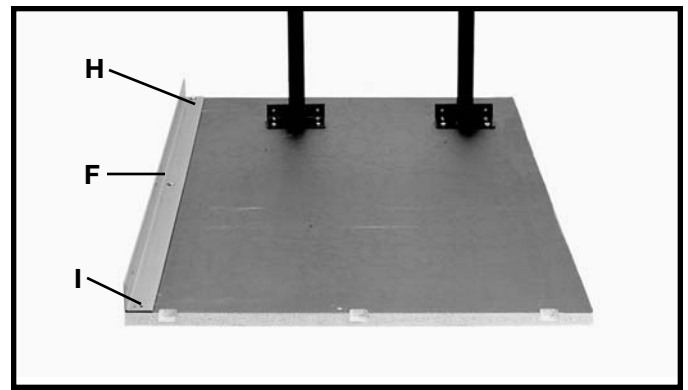

Fig. 9
5. Fasten the front table support (F) Fig. 9, to the bottom of the table as shown using two #8x7/8" long wood screws (H) and (I) supplied.
**NOTE:** The vertical flange, on the table board support (F), should be flush with the front edge of the table board.
**NOTE:** The slots closer to the angles in the support (F) should be against the table.
**NOTE:** Screws (H) and (I) Fig. 9 should not be completely tightened to the table board at this time. Screw (I) will have to be removed later.
**NOTE:** Screw (I) Fig. 9, must be removed in order to attach the left side table bracket to the table.